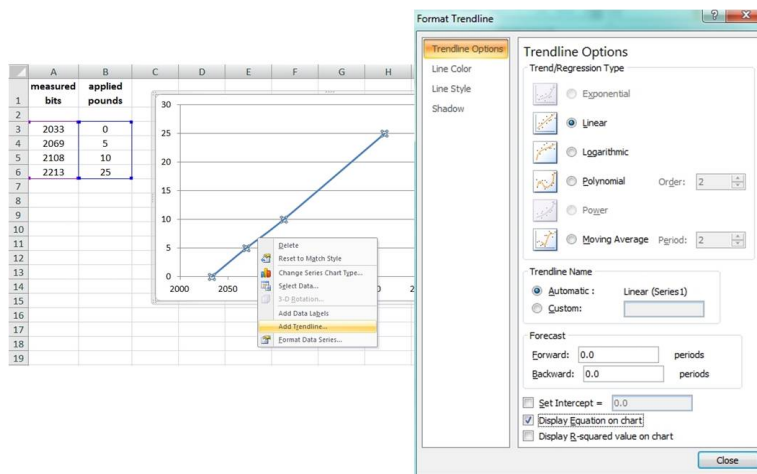

Figure 46 - Plot Trendline
5. Designate the line as Linear, and check the option to Display the Equation on the chart (*Figure 46 - Plot Trendline*).